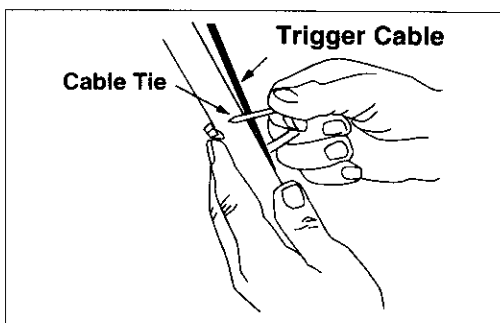

Figure 14
- Secure the right turn trigger cable to the right lower handle, using cable tie provided in the hardware pack. Make sure to route the cable tie *over the drive cable*. See Figure 14.